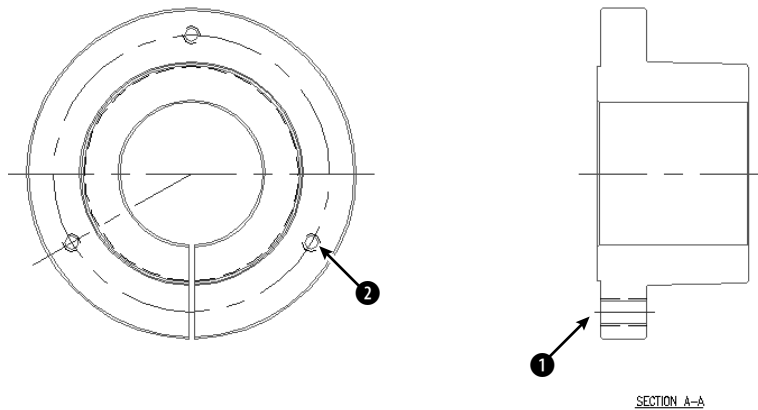
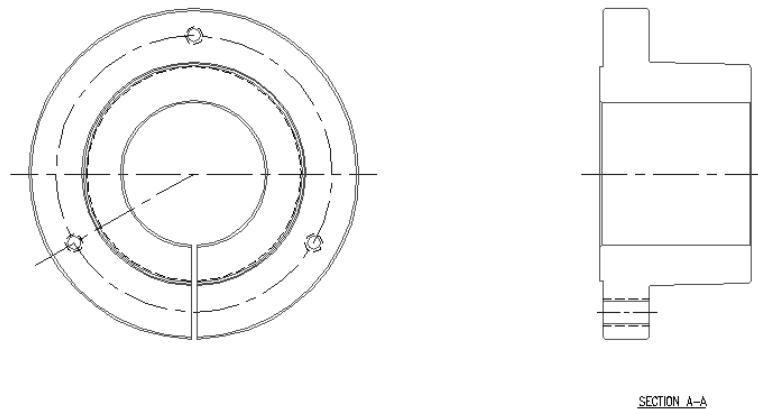

Figure 11-27: This drawing of a bushing has two noncontinuous linetypes.
Figure 11-28: The drawing's noncontinuous lines are now more appropriate.
2. Save the file as **ab11-05.dwg** in your AutoCAD Bible folder. This drawing is of a bushing, as shown in Figure 11-27. Notice that the linetype doesn't show clearly on the short line at ❶ and in the small circle at ❷.
3. Choose Format ⇨ Linetype. Click Show Details to open the Details section of the Linetype Manager, if necessary. Change the Global scale factor to 0.5. Click OK. The drawing regenerates. Note that the circles are better, but the short line at ❶ still looks like a continuous line.
4. Choose the line at ❶. Choose Properties from the Standard toolbar. Click Linetype scale and change it to 0.5. Press Enter. Press Esc to remove the grips and see the result. Notice the difference in the line, which now has a linetype scale of 0.5 (global) times 0.5 (object) = 0.25.
5. Save your drawing. It should look like Figure 11-28.